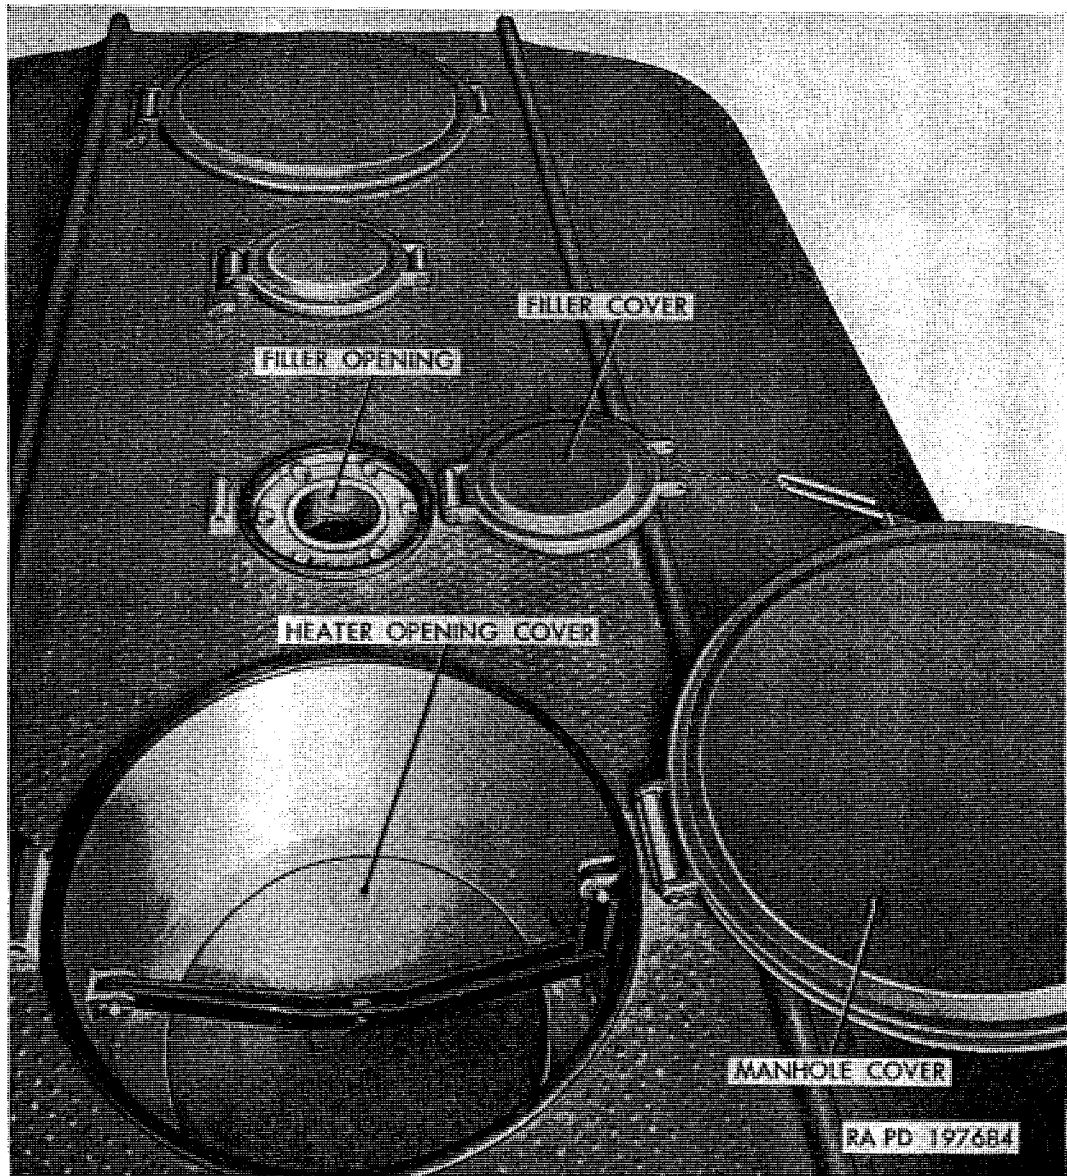

Figure 58. Water tank manhole and filler covers and openings.
- (d) Open filler cover (fig. 58) of tank compartment to be filled. Place one end of discharge hose in filler opening.
- (g) After compartment or compartments are filled, stop pump (*b* or *c* above) and close suction and discharge gate valves. Close and fasten filler covers (fig. 58).
- (4) *Filling tank from hydrant.*
- (c) Place end of discharge hose into either tank opening (fig. 58).
each compartment is opened and heater opening cover removed as shown in figure 58.